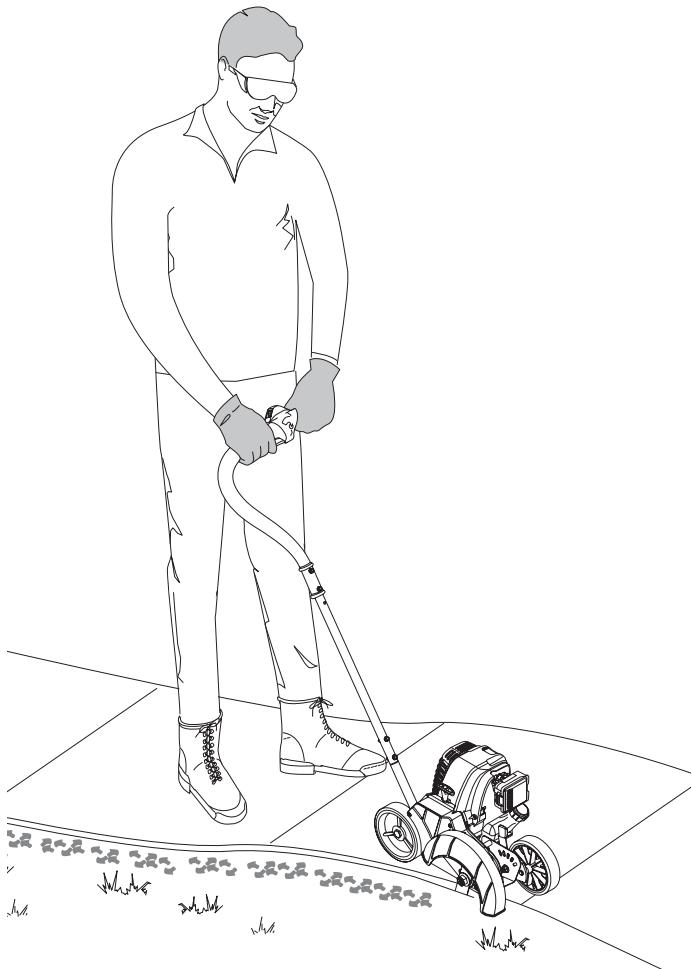
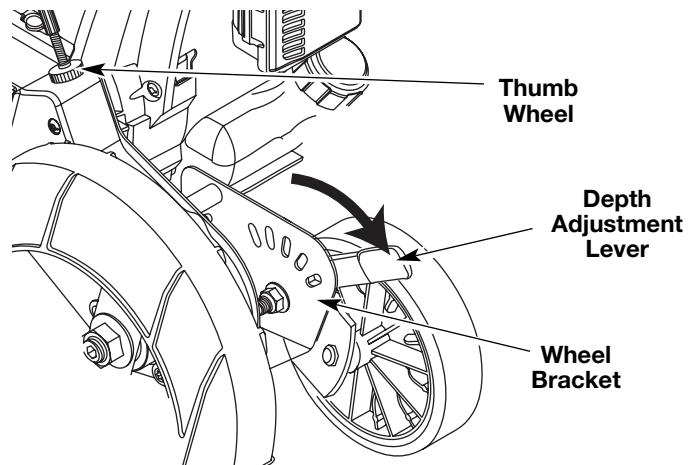

Fig. 12
Fig. 13
Before operating the unit, stand in the operating position (Fig. 12). Check for the following:
- The edger wheel adjusted for proper cut depth as shown in Figure 13 and edger positioned as shown in Figure 12.
1. Grasp the depth adjustment lever located beside the front wheel (Fig 13).
2. To raise the cutting blade, move the lever toward the front of the wheel bracket (Fig. 13). Lowering the wheel decreases the cutting depth.
1. Locate small thumb wheel on top of the belt housing (Fig. 13).